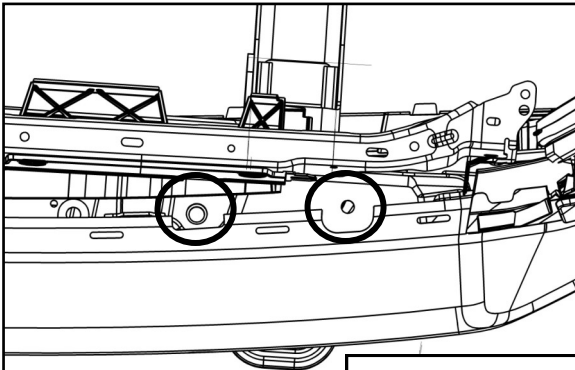

Figure 7
9. Remove 4 upper bumper bolts attaching the bumper to the frame and remove 2 bottom bolts attaching bumper arm to the frame. See **Figure 7 & 8**.